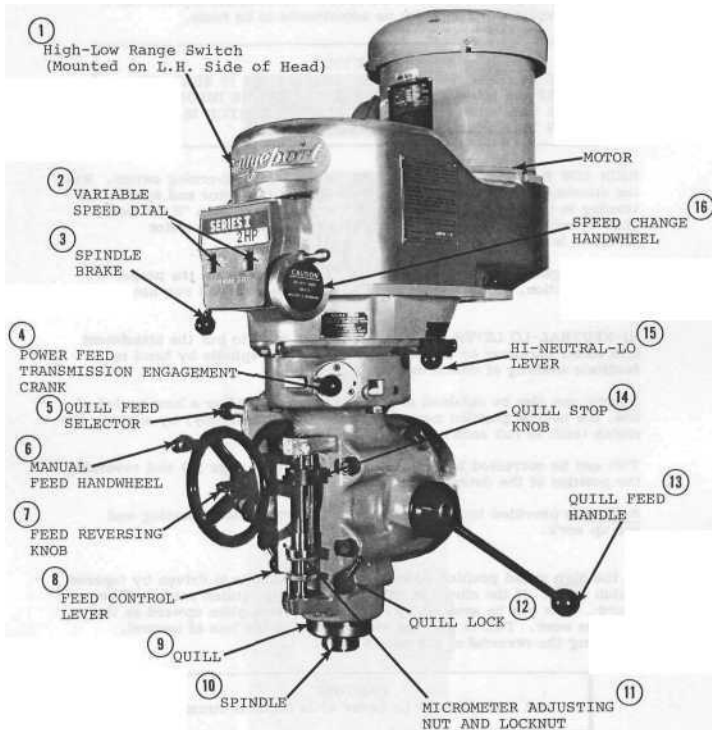
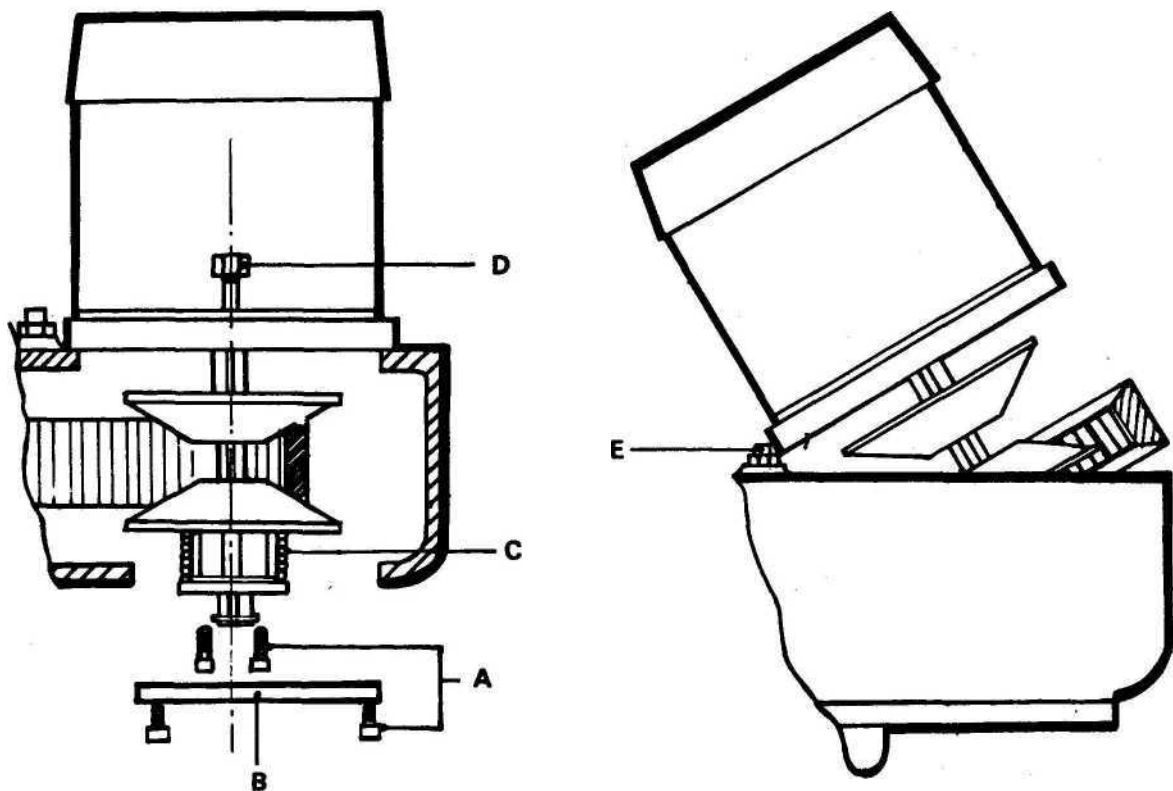
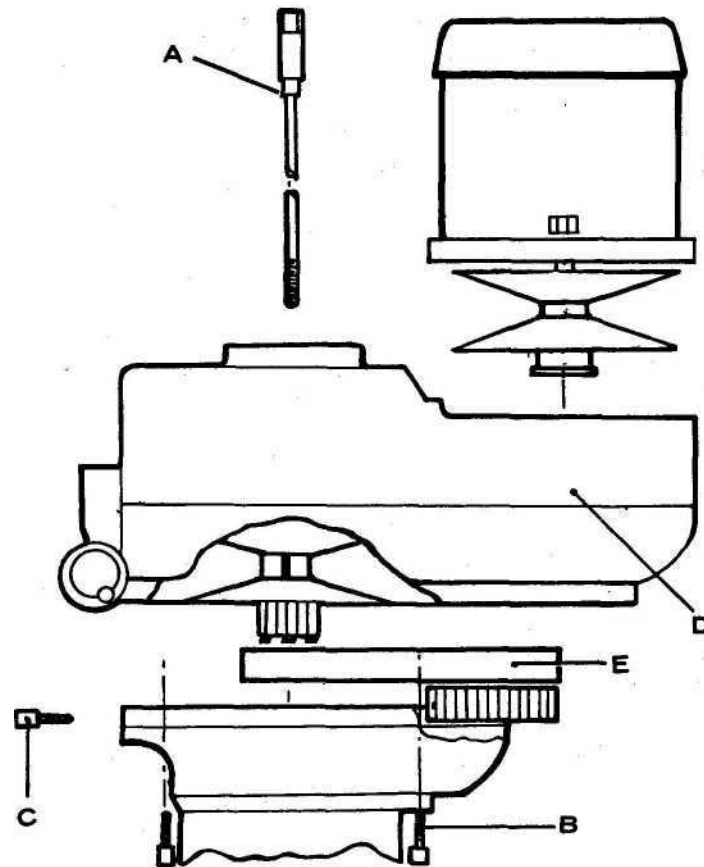

Figure 10. 2J Milling Attachment
Figure 11. Removing the Motor (Side View)
Figure 13. Removing Timing Belt
**SPEED CHANGE HANDWHEEL (16, Figure 10): DO NOT attempt to change spindle RPM unless the motor is running. Dial speeds will only be approximate. Belt wear will cause a slight variation in speeds from what is indicated on the dial.**
**When tightening or loosening the drawbar (#14 page 38) it is necessary to lock the spindle. To accomplish this, use the spindle brake (3) which is located on the left side of belt housing, turning it either to the right or left until it binds, then raise the quill feed handle (13).**
SPINDLE BRAKE (3, Figure 10): Brake lever can be moved in either direction to stop spindle; however, when locking spindle, lever should be moved to right or left and then raised. When brake is worn out it has to be replaced. There are no adjustments to be made.
POWER FEED TRANSMISSION ENGAGEMENT CRANK (4, Figure 10) : Engages power feed worm gear. When lever is in right hand hole, the power feed worm gear is engaged. To disengage worm gear, pull knob out and crank handle in clockwise or down direction and move to opposite position.
Wear on the vari-drive belt will cause a slight change in the speeds to that shown in windows (#22 page 36) on the dial. This can be corrected as follows. Crank the speed change handwheel (#16, Figure 10) snugly against the high speed stop. (This will be near the 4200 reading on the dial.) Use a tachometer to determine the spindle speed, then turn the pivot stud (#16 page 38), after loosening the jam nut (Item #7 page 38) until the spindle speed registers 4200 on the tachometer; tighten jam nut.
REMOVING THE MOTOR (See Figure 11): Run the attachment to the bottom of either speed range and shut off the motor. This puts the vari-drive belt in the best position for disassembly.
2. Remove the cover (#76 page 36) (B, Figure 11) at the lower end of the motor shaft. Use two cover screws (#75 page 36) (A) to fasten the spring (#44 page 38) (C) on the lower end of the motor shaft, to the lower motor vari-drive pulley (#43 page 38). This will reduce the hazard of personal injury that is always present when a heavy spring is under compression. When the pulley, spring retainer (#45 page 38) and spring are securely fastened as a single unit, crank the speed change handwheel (#16 Figure 10) to top speed position.
3. Now remove the screws (#9 page 38) (D) that fasten the motor to the belt housing. The motor should be lifted slightly and pulled firmly away from the spindle and toward the rear of the belt housing. This will pull the vari-drive belt (#27 page 38) deeply into the spindle pulley (#25 page 38), providing the slack needed to slip the belt over the motor pulley (#43 page 38).
4. Now lift the motor high enough to rest the motor base GENTLY on the adjusting screw (#16 page 38) (E) seen directly in front of the motor flange. The belt can now be slipped over the lower pulley and the motor removed from the housing.
## CHANGING TIMING BELT (Figure 13)
Complete the operation for removing the motor. Then put the Hi-Neutral-Lo lever (#15, Figure 10) in the Lo position, remove the drawbar (#14 page 38) (A, Figure 13) and lower the spindle.